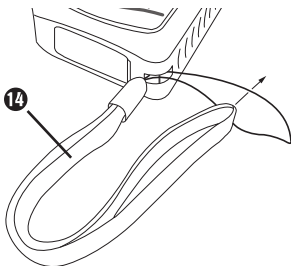

Fig. 1
- ◆ Attach the wrist strap 14 to the hole provided as shown in Figure 1.